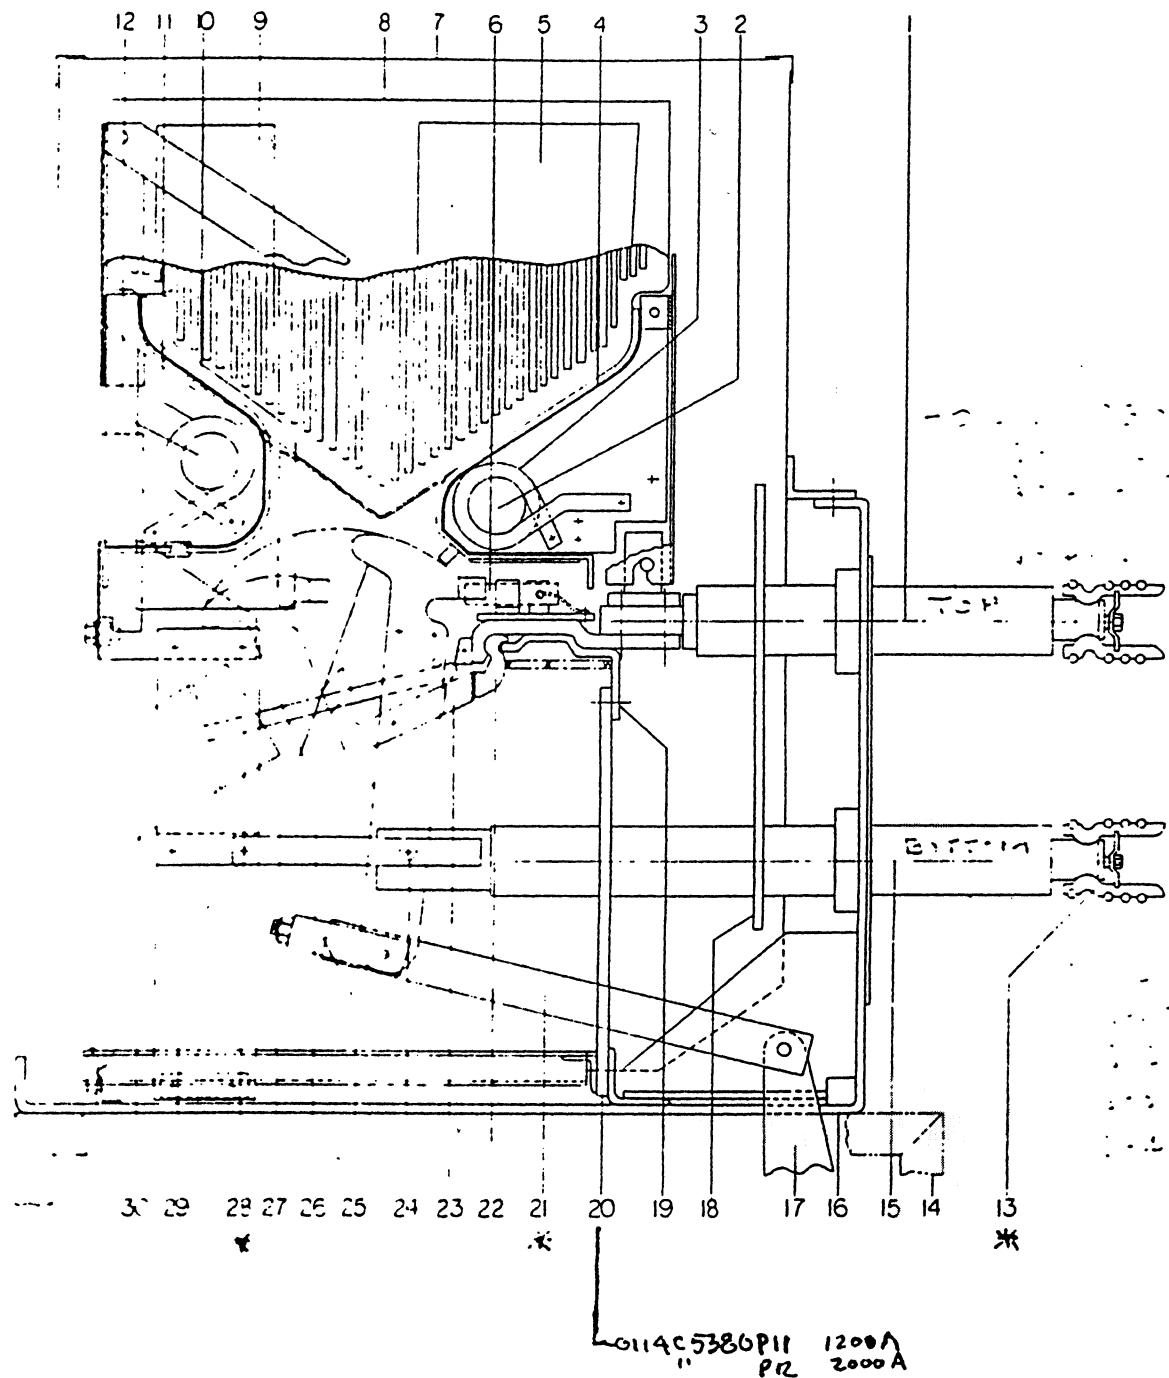

Fig. 10 (0121C8153) Cross Section of Breaker Pole Unit
As the breaker opens to interrupt a current, the arc first starts at the arcing contacts (6 & 27) Figure 10, transfers to the arc runner (4 & 10) and energizes the blow-out coils (3 & 11). This action introduces a magnetic field between the pole pieces 5 & 9 of the interrupter that forces the arc deeper into the arc chute (8). At the time the arcing contacts part a discharge of air is expelled through the booster tube (28) across the arc. This air flow assists the arc transfer and interruption by blowing the arc away from the contacts and into the arc chute. The magnetic field forces the arc deeper into the interrupter along the diverging arc runners.